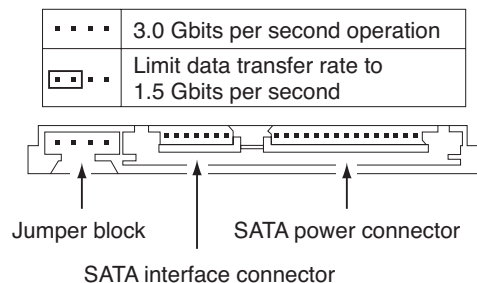

Figure 3. Serial ATA connectors
- Install a jumper as shown in Figure 3 below to limit the data transfer rate to 1.5 Gbits per second (and leave the drive connected to the SATA-equipped motherboard or host adapter that doesn’t support auto-negotiation) or
- Install a SATA host adapter that supports auto-negotiation, leave the drive jumper block set to “Normal operation” (see Figure 3 below), and connect the drive to that adapter. This option has the benefit of not limiting the drive to a 1.5 Gbits/sec transfer rate.